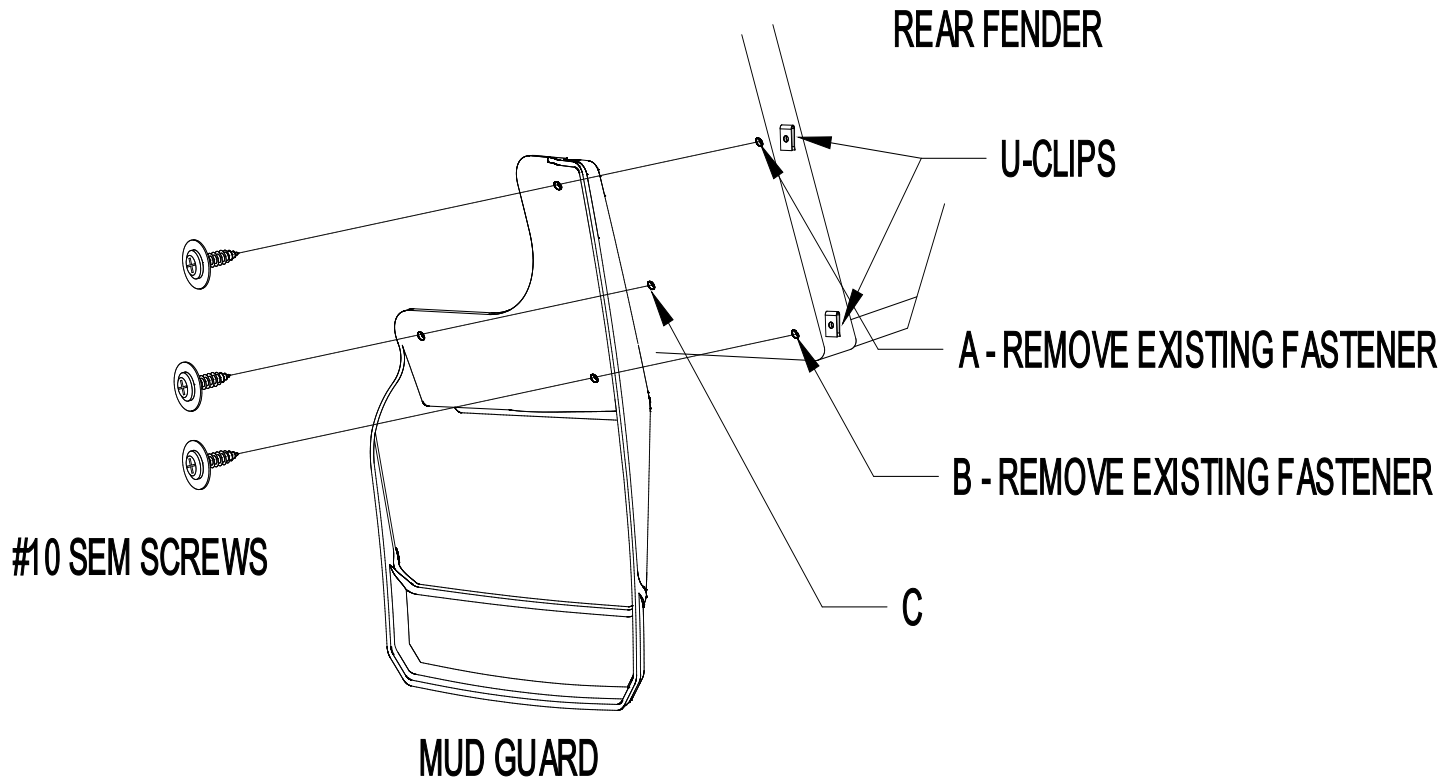

Figure 1
2. Remove factory fasteners from locations A and B (Figure 1).